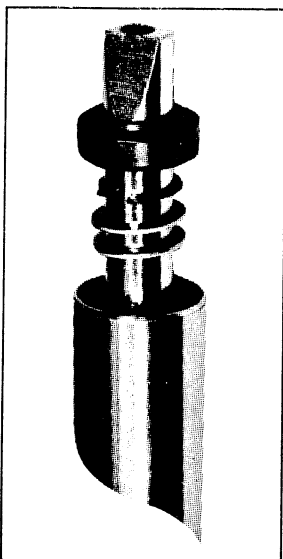

Figure 110 — Spin Shaft Seal
4. Remove lip seal from upper end of spin shaft and snap (retainer) ring no. 22 Truarc type external pliers) from the upper end of the agitator shaft. Pull the shaft assembly out of spin shaft. See *Figure 110*.
NOTE: Steel spacer washers (as required to control end play to a maximum of .012 inches) and one stainless steel thrust washer are located in the upper cavity of the spin shaft, Figure 110.